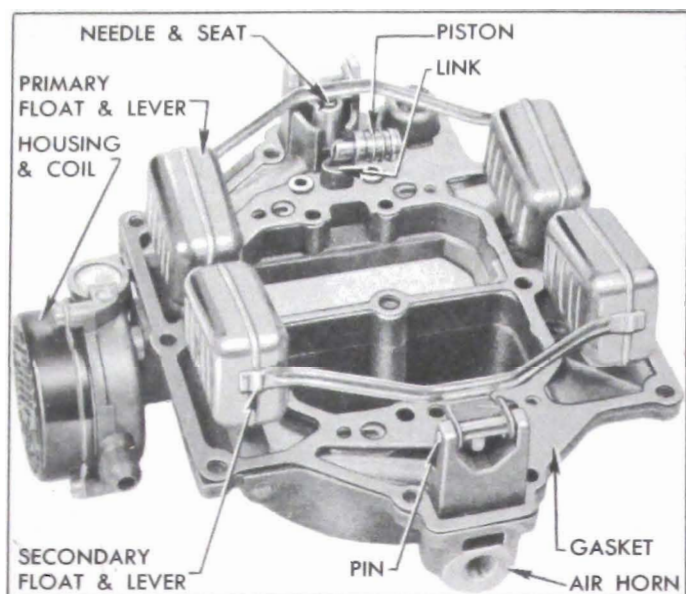

Figure 3-46—Parts on Air Horn (Inverted)
6. Swing vacuumer piston $\frac{1}{4}$ turn to remove it from piston link then remove link from air horn. See figure 3-46.